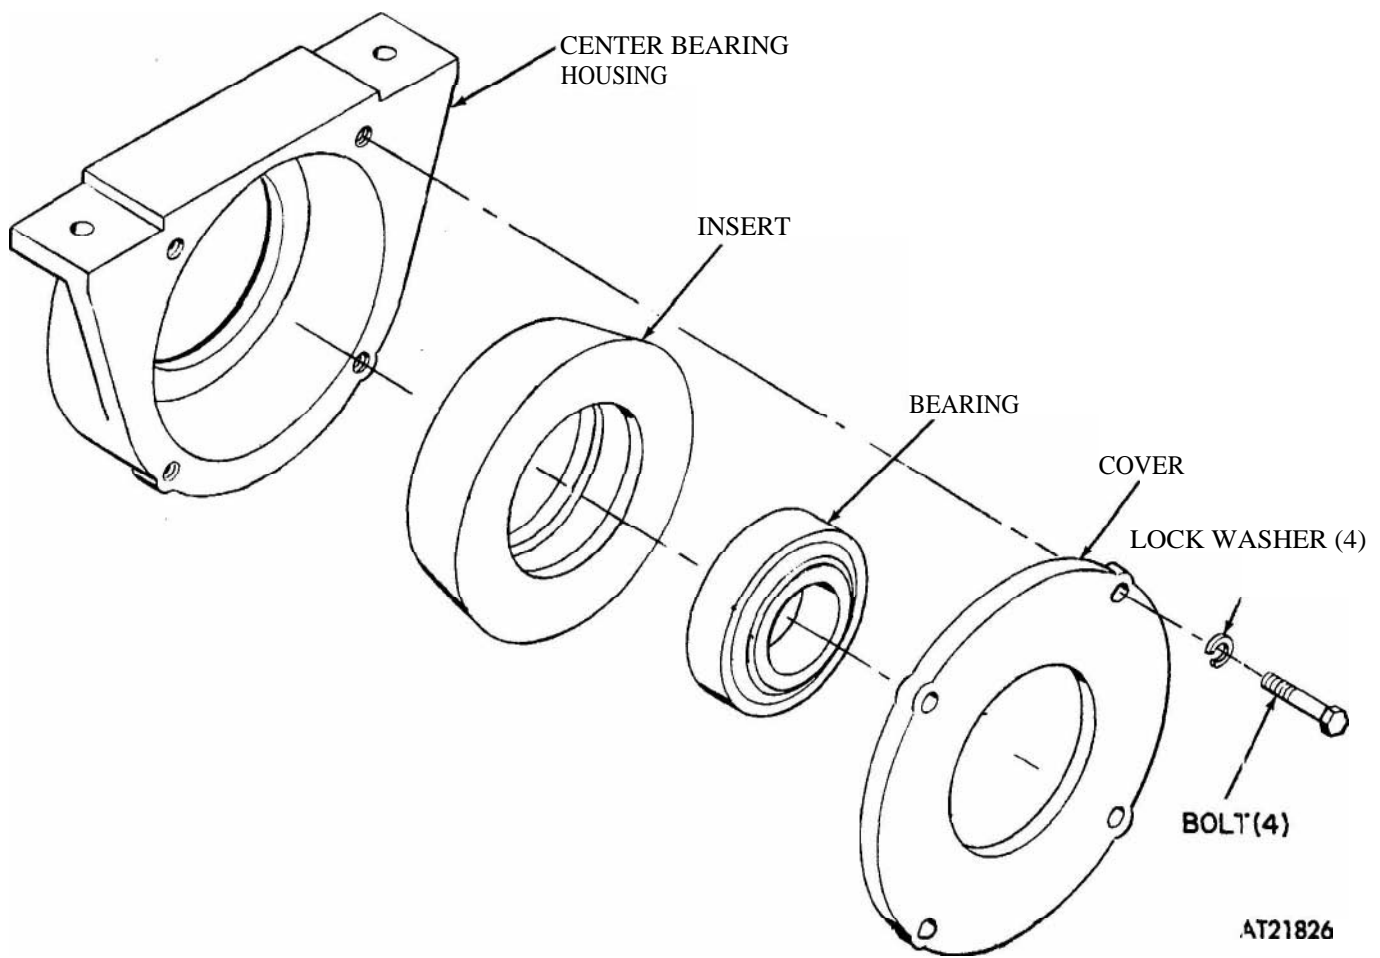

Figure 2-174. Center bearing, disassembly and assembly.
(1) Remove four bolts and lock washers securing cover to bearing housing (fig 2-174).
(2) Remove insert and bearing from bearing housing.
- (1) Position insert on bearing and install in center bearing housing (fig 2-174).
- (2) Position cover to bearing housing and secure with four screws and lock washers.